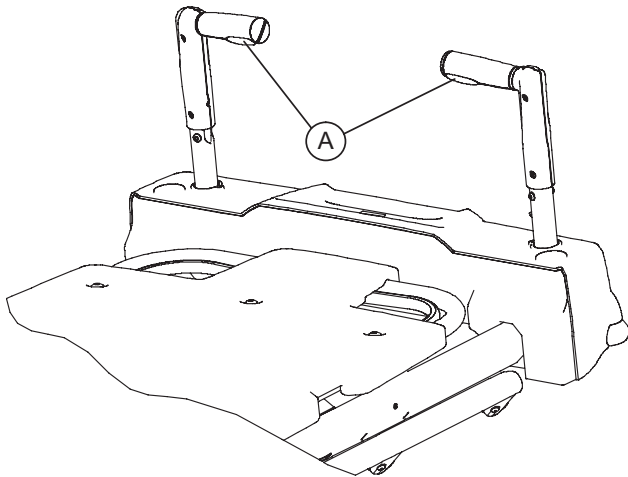

Figure 4 - Drive Handles with Motion Release Switches
4. Grasp the drive handles at the two raised grip areas. Squeeze either of the motion release switches (A) located under the handles to enable the movement of the drive wheel as shown in Figure 4 and in the Drive Wheel Pedal and Drive Handle Reference label. Either or both switches will enable movement but both switches must be released to stop movement.